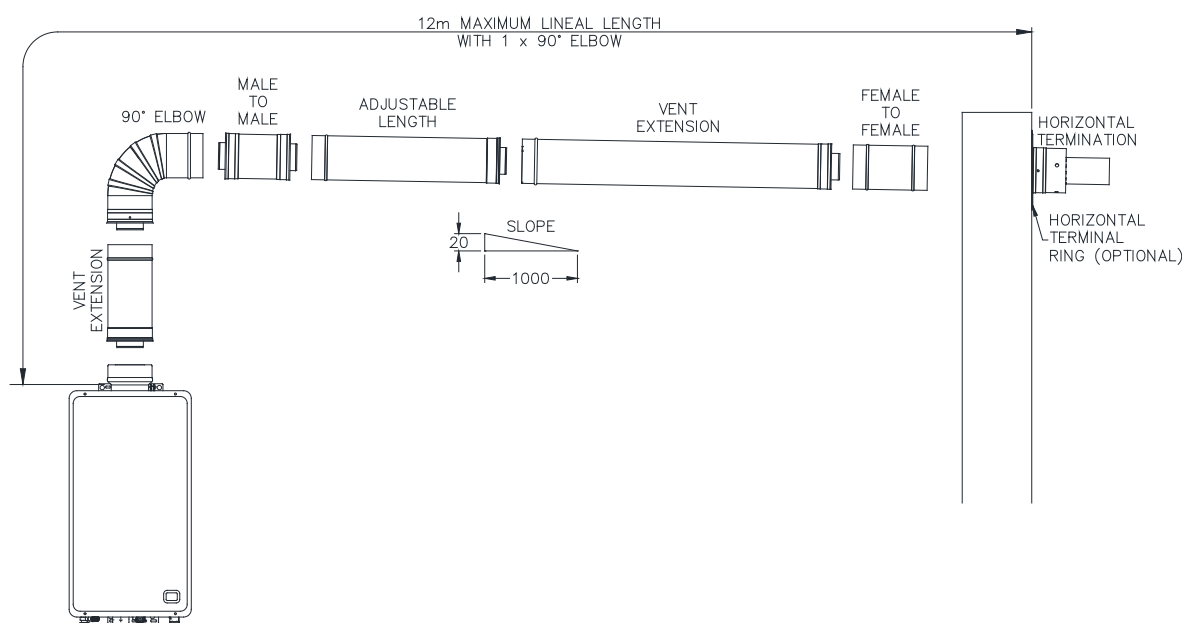

Figure 19- Typical Installation – Horizontal Terminal with One Elbow
- Use Male to Male and Female to Female Adapters to reverse the direction of flue insertion where three or more sections of flue are used in a horizontal flue run and the flue drains toward the flue terminal. Refer to Figure 19- Typical Installation – Horizontal Terminal with One Elbow on page 44.